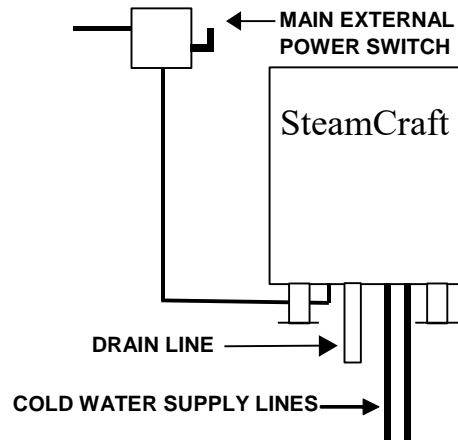

Figure 3-8
1. Install a main disconnect switch and a separate fuse or breaker for this appliance as shown in Figure 3-8. The fused disconnect switch is referred to as the "Main External Power Switch."